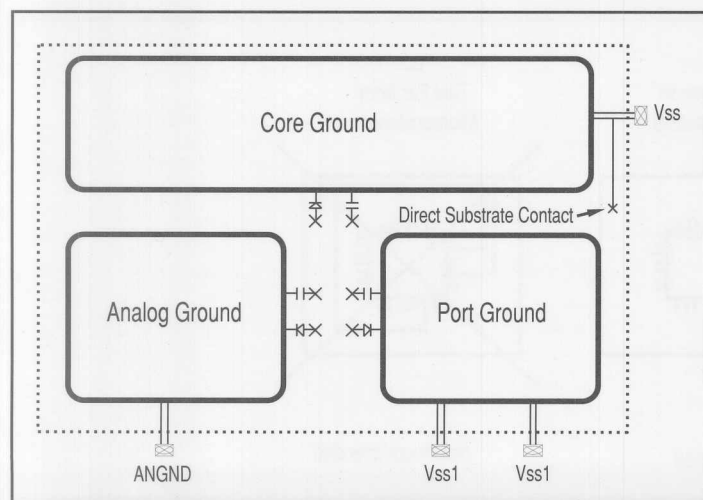

Figure 1. KX Ground Regions
The three noise isolating ground regions on the KX family are: core, port, and analog ground. Core ground is supplied by the Vss pin, port ground is supplied by two Vss1 pins, and analog ground is supplied by the ANGND pin. Each of the ground regions is coupled to the substrate and therefore to each other by parasitic devices as is denoted in Figure 1 by a capacitor and diode connected to the substrate (X).